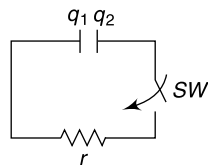

Fig. 2.71
32. Two plates of a capacitor of capacitance C are given charges q_1 and q_2 . The capacitor is connected across a resistance r (Fig. 2.71). Find the charges on the plate after time t .